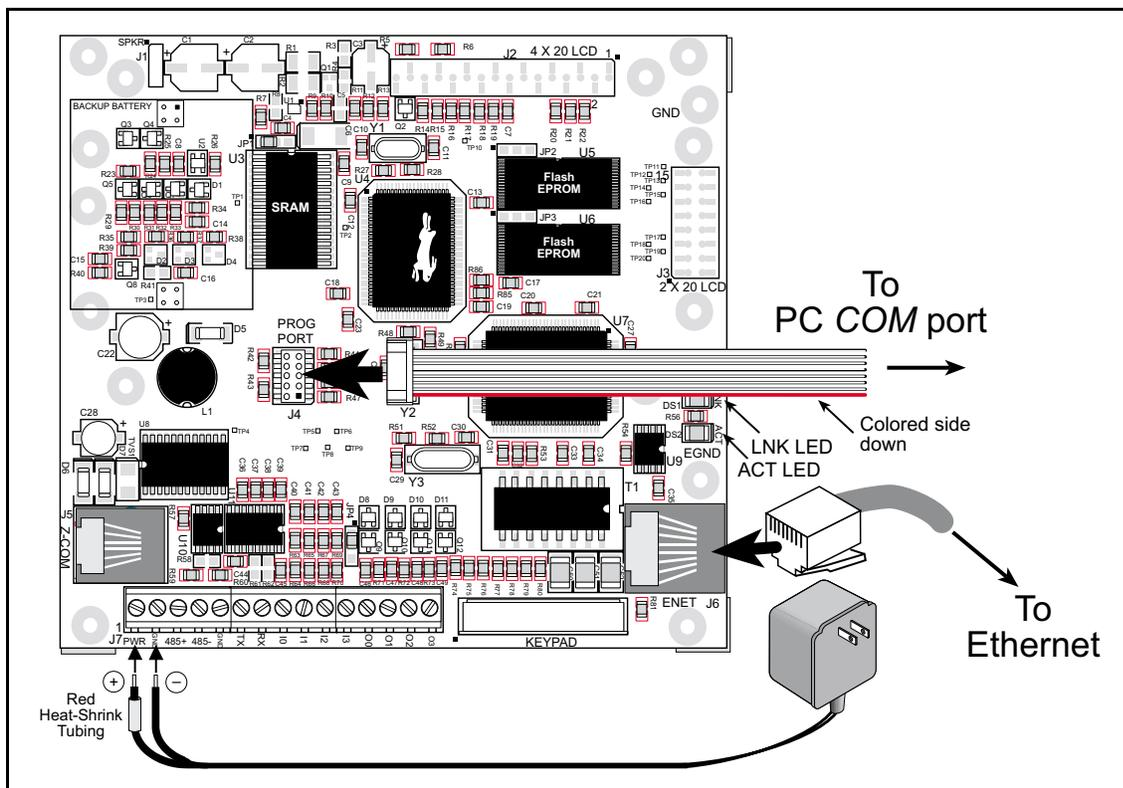

Figure 1. Connecting Power and PC to Rabbit 2000 TCP/IP Development Board
- The programming cable must be connected to the TCP/IP Development Board. (The colored wire on the programming cable is closest to pin 1 on header J4 on the TCP/IP Development Board, as shown in Figure 1.) The other end of the programming cable must be connected to the PC serial port. The COM port specified in the Dynamic C **Options** menu must be the same as the one the programming cable is connected to.